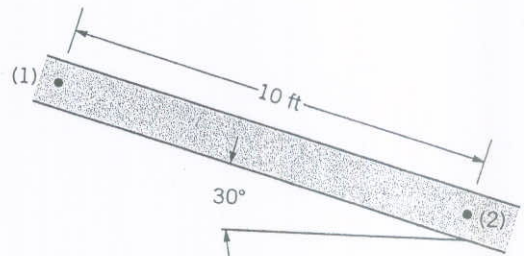

FIGURE P3.7
3.7 A fluid with a specific weight of  $100 \text{ lb/ft}^3$  and negligible viscous effects flows in the pipe shown in Fig. P3.7. The pressures at points (1) and (2) are  $400 \text{ lb/ft}^2$  and  $900 \text{ lb/ft}^2$ , respectively. The velocities at points (1) and (2) are equal. Is the fluid accelerating uphill, downhill, or not accelerating? Explain.